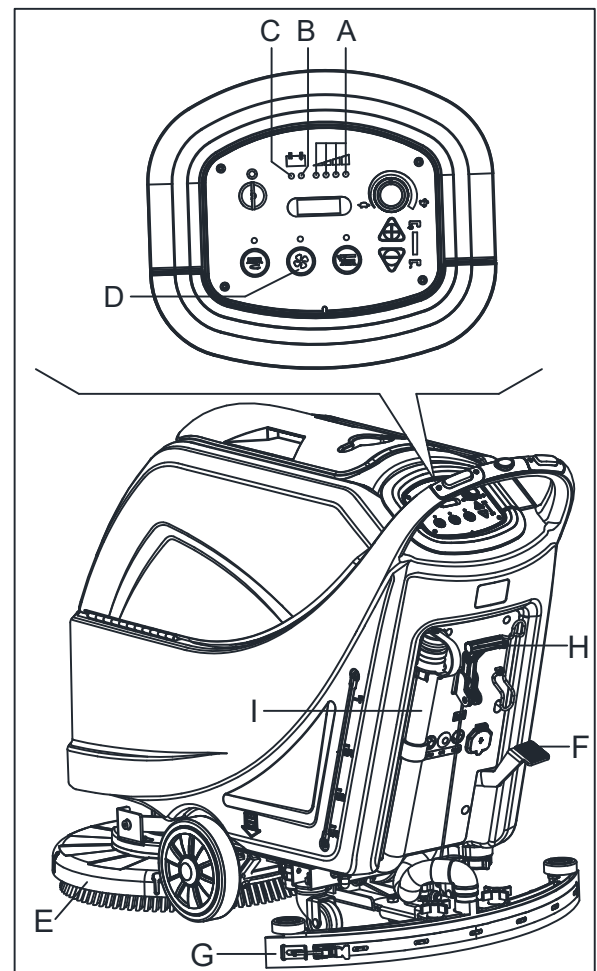
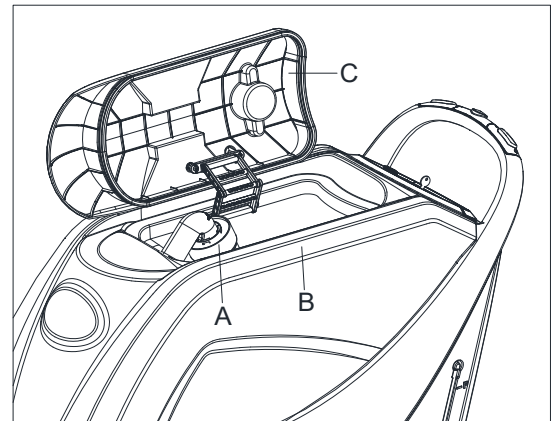

Figure 10
Figure 11
Until the green warning light (A, Figure 10) stays on, the batteries allow the machine to work normally. When the green warning light (A) turns off, and the yellow warning light (B) turns on, it is advisable to charge the batteries, because the remaining charge will last for a few minutes (depending on battery characteristics and work to be performed). When the red warning light (C) turns on, batteries are fully discharged. After a few seconds, the brush/pad-holder is automatically tuned off, while the (only for machine with traction) drive system stay on, to finish drying the floor and drive the machine to the appointed recharging area.
An automatic float shut-off system (A, Figure 11) blocks the vacuum system when the recovery water tank (B) is full. The vacuum system deactivation is signaled by a sudden increase in the vacuum system motor noise frequency, also the floor has not dried.
If the vacuum system turns off accidentally (for example, when the float is activated because of a sudden machine movement), to resume the operation: turn off the vacuum system by pressing the switch (D, Figure 10), then open the cover (C, Figure 11) and check that the float inside the grid (A) has gone down to the water level. Then close the cover (C) and turn on the vacuum system by pressing the switch (D, Figure 10).
When the recovery water tank (B, Figure 11) is full, empty it according to the following procedure.
2. Lift the brush/pad-holder deck (E, Figure 10) by pressing the pedal (F, Figure 10). (only for disc machine)
3. Lift the squeegee (G, Figure 10) with the lever (H, Figure 10).
5. Empty the recovery water tank with the hose (I, Figure 10). Then, rinse the tank (B, Figure 11) with clean water.